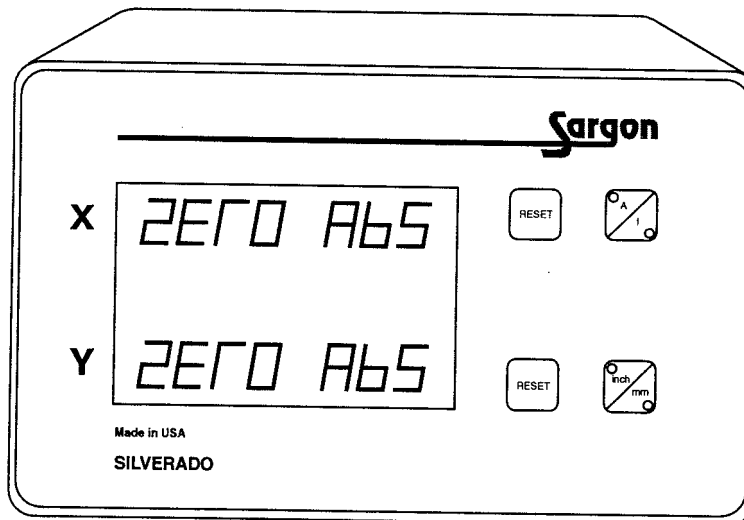

Figure 11: ZERO ABS
Using the A/I button, toggle to the Absolute Mode (A). Then press and hold the A/I button until the unit displays ZERO ABS (see Figure 11). At that point press the relevant RESET button(s) to reset the corresponding absolute coordinate(s) to zero.